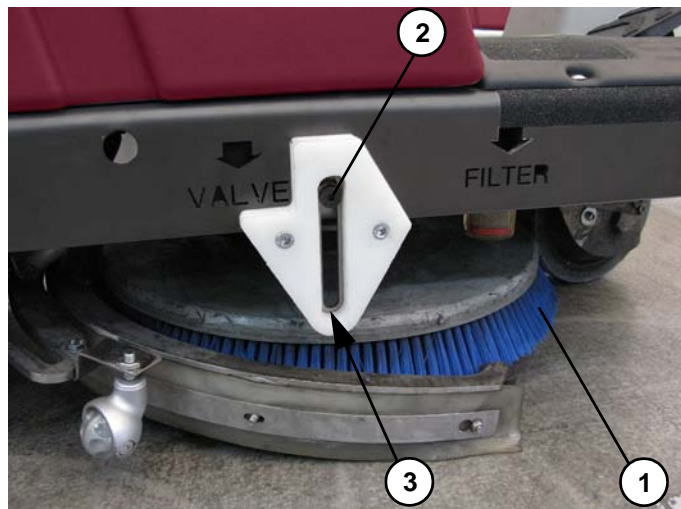

Figure 5-4
2. Wash and clean the disc brush (1, Figure 5-4) from dirt and debris
4. The disc brush must be replaced for excessive wear and tear, when in the lowered brush condition, the lateral pins (2, Figure 5-4) lean on the lower ends (3) of the slots.